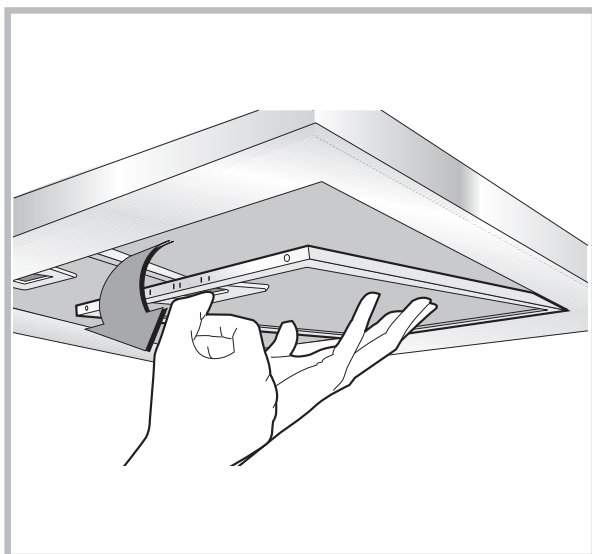

Fig.7
• The minimum distance between the support surfaces of the cooking pots on the cooker top and the lowest part of the cooker hood must be at least 65 cm. If a connection tube composed of two parts is used, the upper part must be placed outside the lower part. Do not connect the cooker hood exhaust to the same conductor used to circulate hot air or for evacuating fumes from other appliances generated by other than an electrical source. Before proceeding with the assembly operations, remove the anti-grease filter(s) (Fig.7) so that the unit is easier to handle.